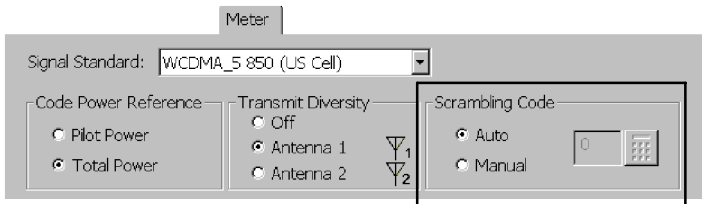

Figure 3-56: Setting the scrambling code
3. Tap the **Meter** tab. See Figure 3-56.